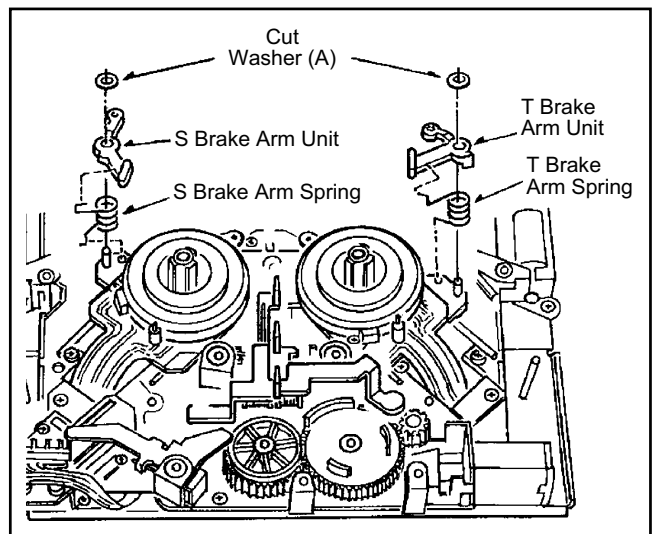

Figure 2-19
2. Remove the 2 Cut Washers (A) as shown in figure 2-19, and remove the Supply and Take-up Brake Arm Unit.